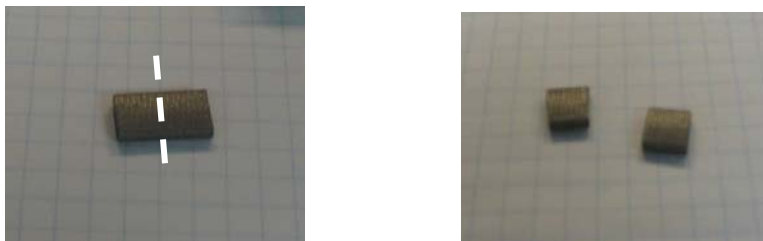

Figure 2 – Cutting the EMI gasket
- 2- Cut the EMI gasket in half across the short side. See Figure 2.